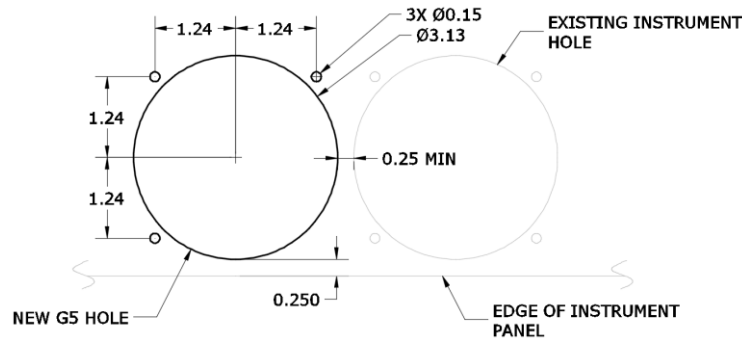

Figure 4-13 G5 Instrument Hole Dimensions
- 3) The dimensions and limitations of the hole must be as shown in Figure 4-13.